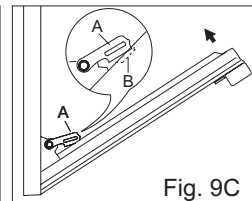

Fig. 9C
- 3 shut the oven door slowly until it reaches hooks "A", making sure these are locked into slots "B" of the oven door, as shown in fig. 9C. Remove the glass Fig. 9A (only for models where present).